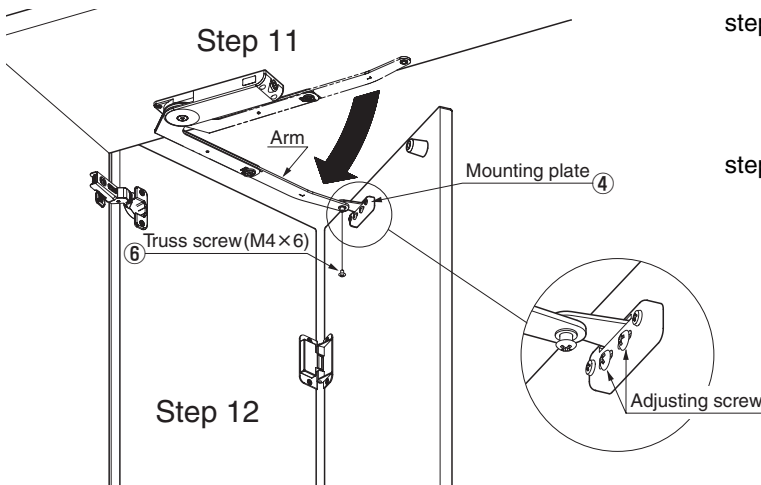

Fig. 10 Installation of doors (for right-hand side)
step11 Fit the projection of the mounting plate (4) into the arm hole to the limit (Fig. 10), and then fix them tightly with the truss screw (M4x6) (6). The tightening torque should be not less than 15kgf · cm (1.5N · m).
step12 When the door cannot be shut fully, loosen the adjusting screws of the mounting plate and fix the latter at the position where the door is closed fully. The adjusting screws are able to adjust the horizontal position in the range of ±5mm. After fixing the position be sure to tighten the adjusting screws additionally (Fig. 10).